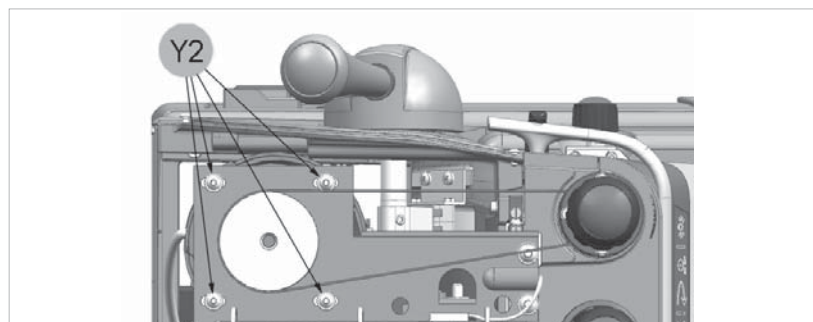

Fig. 53
- 2) Loosen the 6 screws (Y1) and remove the top safety guard (Y).
- 3) Loosen (without removing) the 4 allen screws (Y2) securing the motor (Fig. 53).